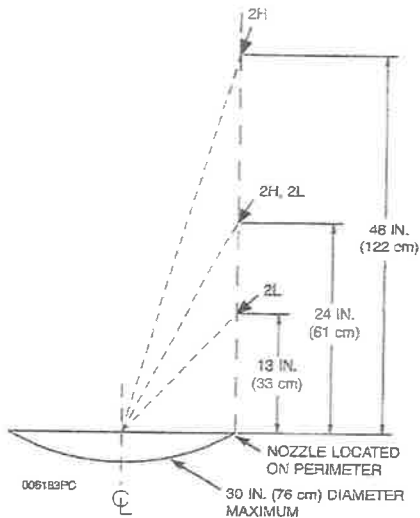

Figure 3-7.
The 2H nozzle, Part No. 551028, is used for high proximity wok protection. This nozzle is a two (2) flow nozzle. The nozzle must be located **anywhere on the perimeter** of the appliance, 24 in. to 48 in. (61 to 122 cm) above the top edge of the wok and aimed at the center of the wok. See Figure 3-7.
The 2L nozzle, Part No. 551027, is used for low proximity wok protection. This nozzle is a two (2) flow nozzle. The nozzle must be located **anywhere on the perimeter** of the appliance, 13 in. to 24 in. (33 to 61 cm) above the top edge of the wok and aimed at the center of the wok. See Figure 3-7.